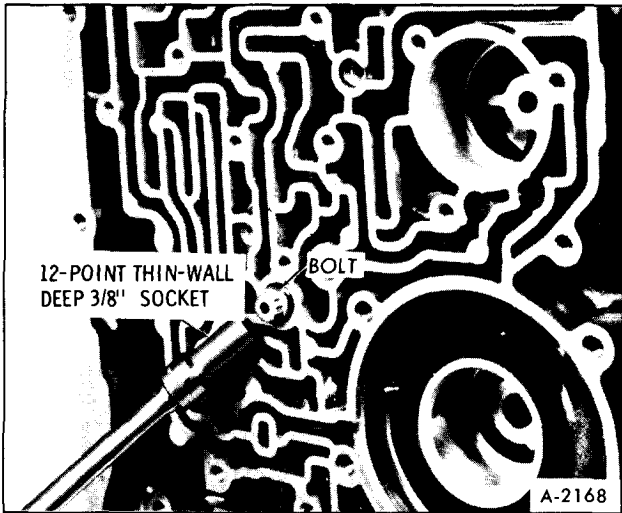

Figure 51-Remove Center Support Bolt
1. Remove center support bolt from transmission case, Figure 51, using a 3/8 inch 12-point thin wall deep socket.